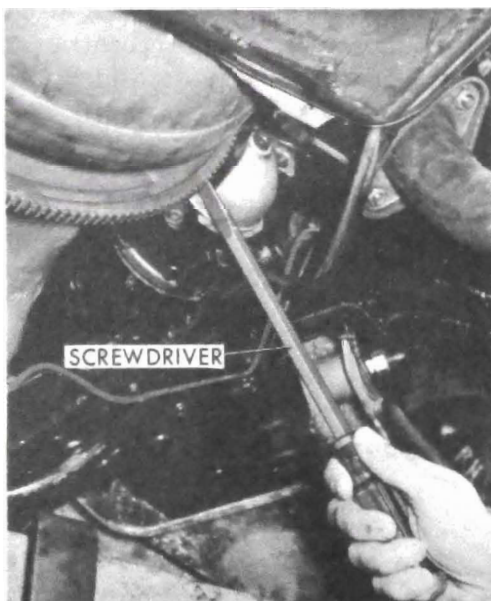

Figure 60-242A Locking Flywheel to Torque Harmonic Balancer Bolt.(350 cu.in. Shown)
5. Install harmonic balancer, bolt and washer. By using a screwdriver or other suitable tool, lock flywheel and torque bolt to (140-160 lb. ft. on 350 cu.in.) and (200-220 lb. ft. on 455 cu.in.) See Figure 60-242A.